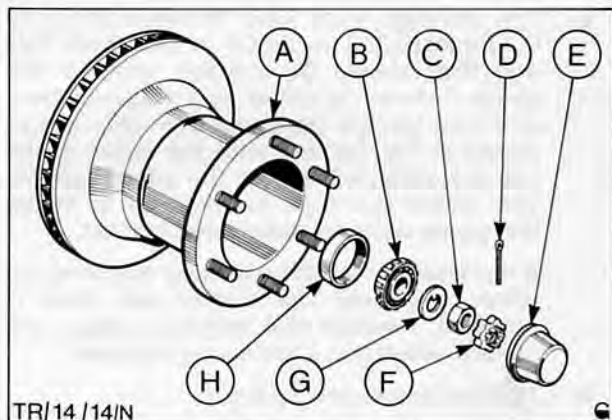

Fig. 30. Front hub and disc assembly
4. Remove hub and disc assembly from stub axle spindle, Fig. 30.